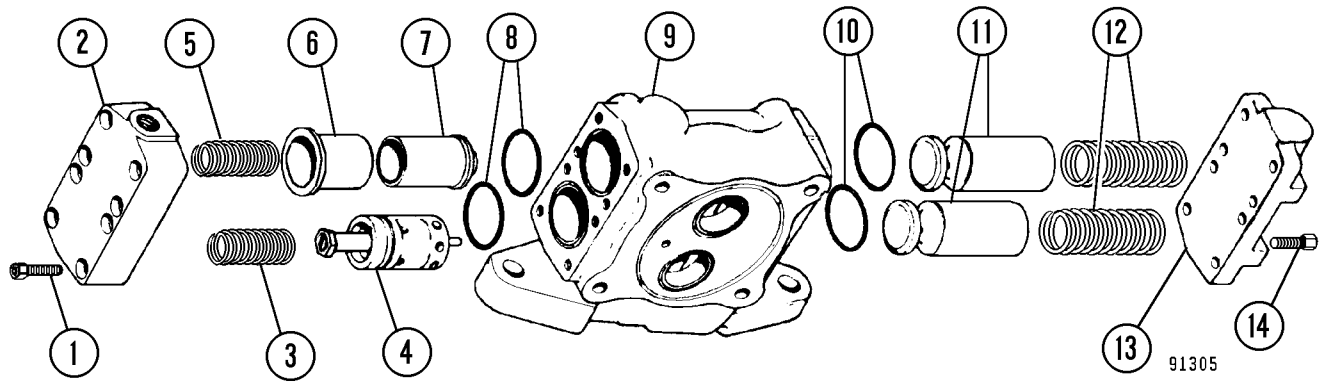
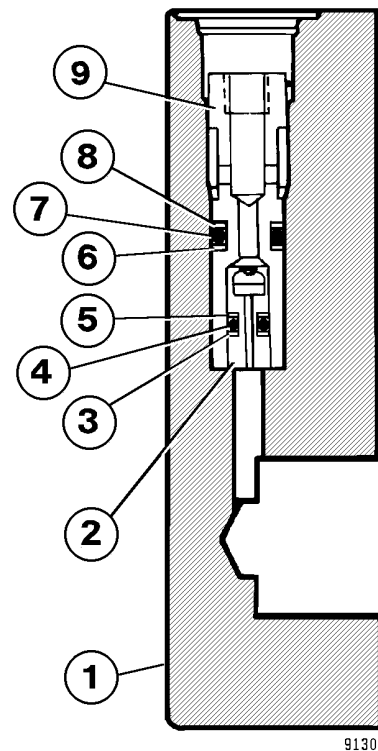

FIGURE 8-5. INLET SECTION DISASSEMBLY
FIGURE 8-6. RESTRICTOR POPPET REMOVAL (Inlet Cover)
2. Disconnect the external tube (7, Figure 8-2) at the cover end and remove. Remove capscrews (14, Figure 8-5), remove cover (13). Remove springs (12), check valves (11) and O-rings (10).
3. Remove capscrews (1) and cover (2). Remove springs (3 & 5) and flow control/main relief valve (4). Remove sleeve (6), low pressure relief (7) and O-rings (8).
*NOTE: If restrictor poppet removal in cover (2, Figure 8-5) is required, refer to Step 4 and Figure 8-6.*
4. Remove sleeve (9), backup ring (8), O-ring (7), backup ring (6). Remove backup ring (5), O-ring (4), backup ring (3) and restrictor poppet (2).